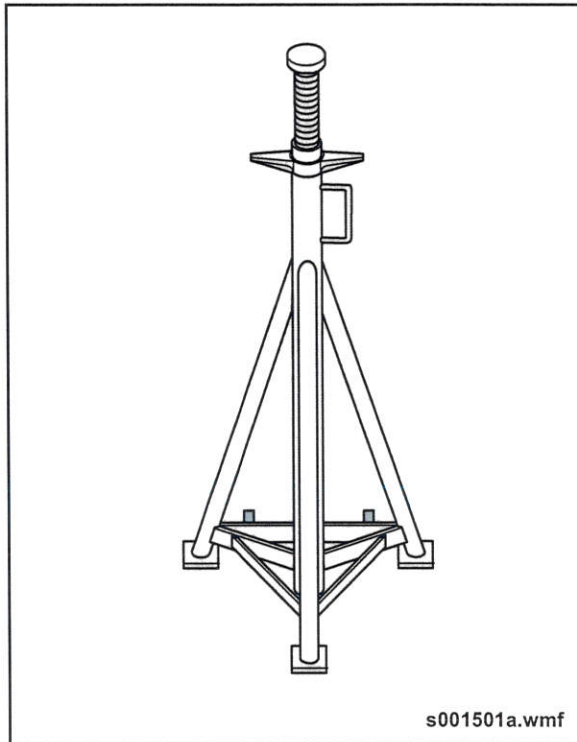

Fig. GI-20: Jack Stand
9. Position a jack stand squarely under each reinforced jacking point on the frame. Each jack stand must have a minimum weight bearing capacity of 12,000 lbs. (5,443 kg). See "Fig. GI-20: Jack Stand" on page 38.